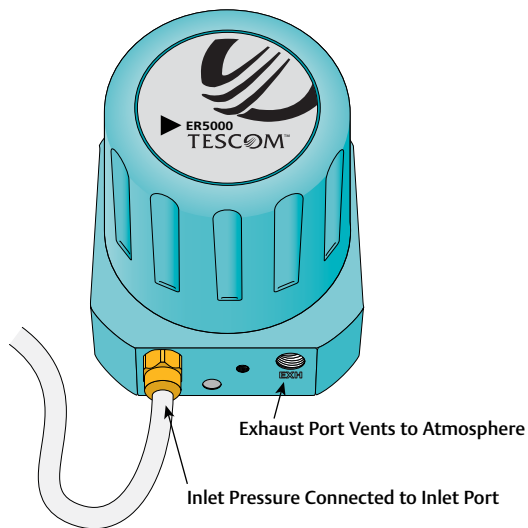

Figure 63: Proper Installation of Inlet Pressure
- The inlet pressure must go into the Inlet Port, which is the left port (as shown in Figure 63). There must be a proper air tight seal, using a connector such as the TESCO 80129 1/8" NPTF male tube connector.